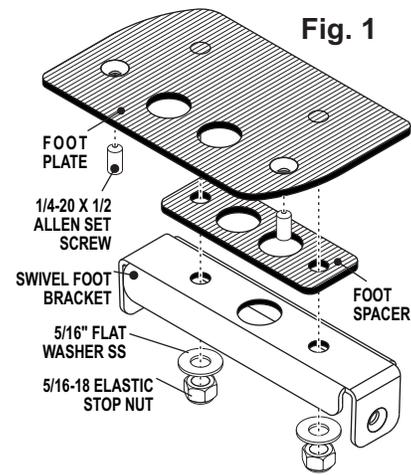

Fig. 1
1. Secure both foot plates to their swivel foot brackets. (Fig. 1) and loosely install the Allen set screws.